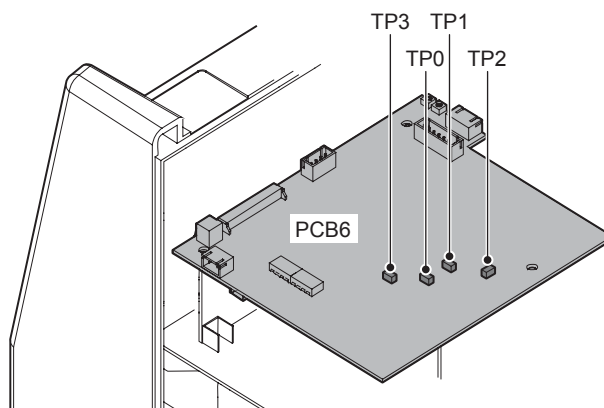

Figure 11-10: Checkpoints TP0-TP3 on PCB6
- 2) On the PCB3 (WK-5548) and PCB6 (WK-5549), measure the voltages according to the following table. The check points and the reference are obtainable on the solder side of PCB4 (WK-4819). The locations of points are indicated in Figure 11-10, 11-11.